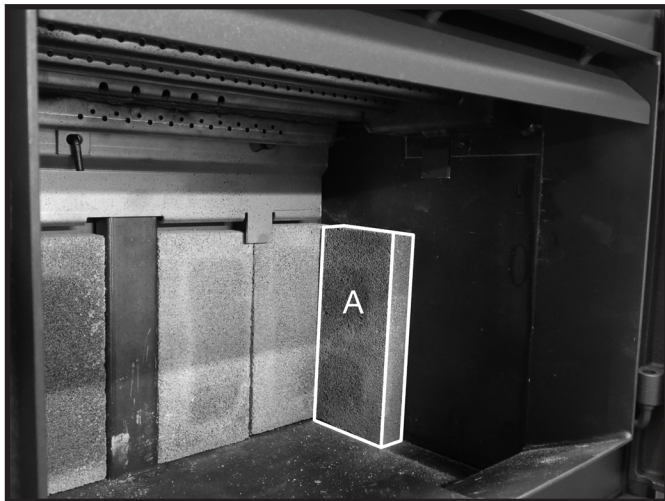
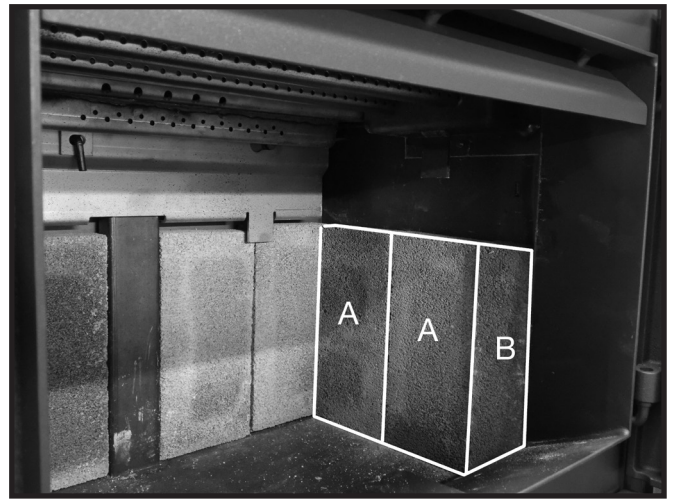

Figure 14: 1st side wall brick in place.
Figure 15: Lower side wall firebricks in place.
3. For the side walls: Stand an "A" firebrick against the side wall and up against the rear wall firebrick (Figure 14). Stand another "A" brick beside the first, one followed by a narrow "B" firebrick (Figure 15).